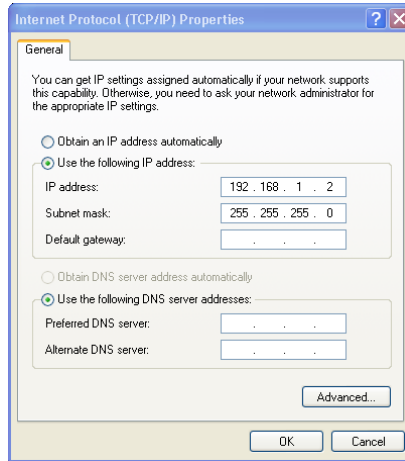

Figure 2: Internet Protocol (TCP/IP) Properties Window
6. Select **Use the following IP address**, and fill in the details as shown in Figure 2.